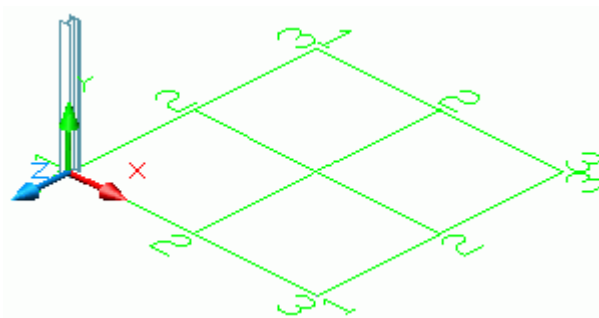

Figure 32: Beam HEA 400
- Select a suitable UCS (see Figure 32).